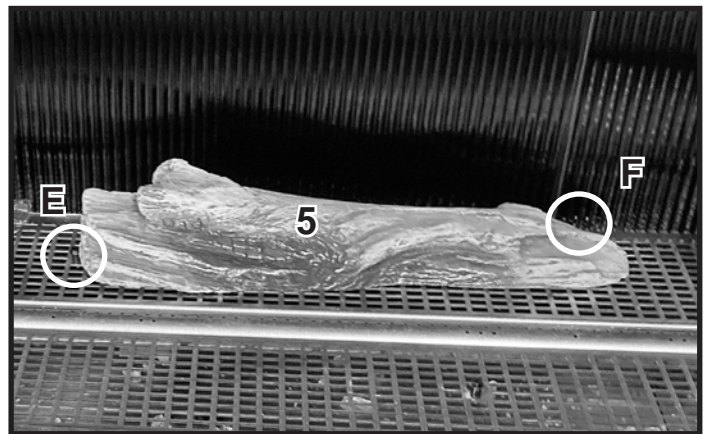

Figure 4 Install Log #5
**Log #5:** Place the left side of Log #5 against the left log pin (E). Pivot the log backwards until it contacts the rear log pin (F) for See Through models and those using black glass refractory. For installations with fiber refractory, the log will contact the refractory. See Figure 4.